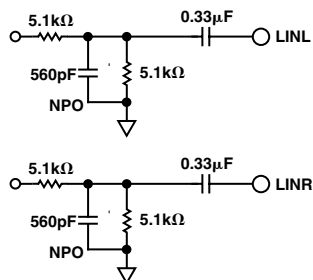

Figure 11. 2 V rms Line-Level Input Circuit
The AD1849K Stereo Codec has been designed to require a minimum of external circuitry. The recommended circuits are shown in Figures 11 through 20 and summarized in Figure 21. Analog Devices estimates that the total cost of all the components shown in these Figures, including crystals, to be less than \$5 in 10,000 piece quantities.
A circuit for 2 V rms line-level inputs is shown in Figure 11. Note that this is approximately a divide-by-two resistive divider.
- The AD1849K requires an external *passive* antialias filter as shown in Figure 11. In contrast, the recommended input circuit for the CS4215 is a single-pole *active* filter requiring a dual op amp. Though overkill for the AD1849K, this input circuit will work with the AD1849K as well.